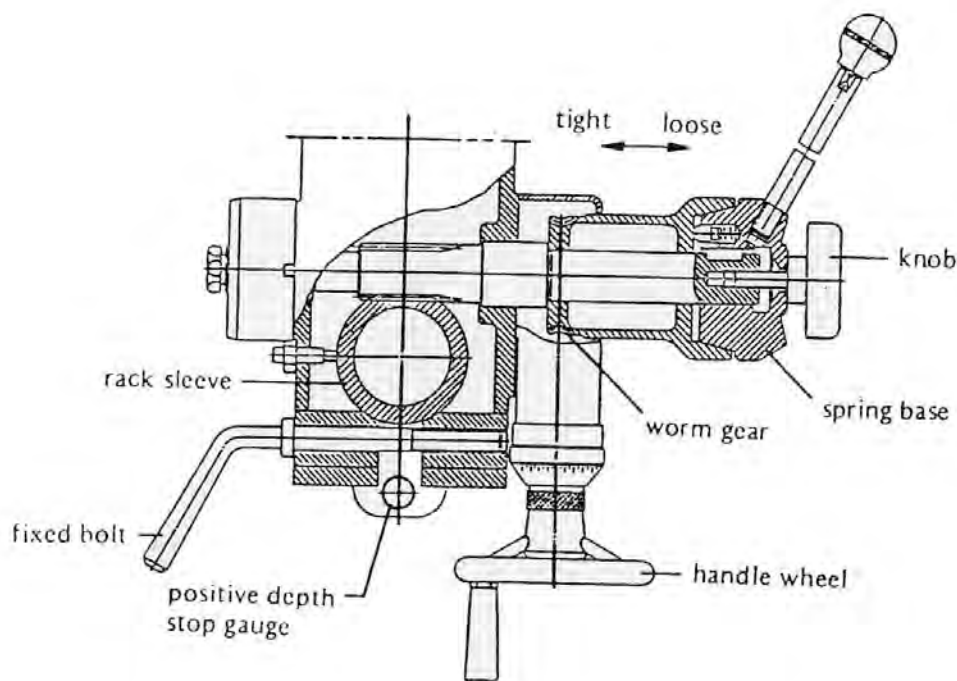

Fig. 2
- (4) Preparing for Drilling (see fig. 2) (Except addition power feed system).
- (5) Preparing for Milling (see fig. 2) (Except addition power feed system).